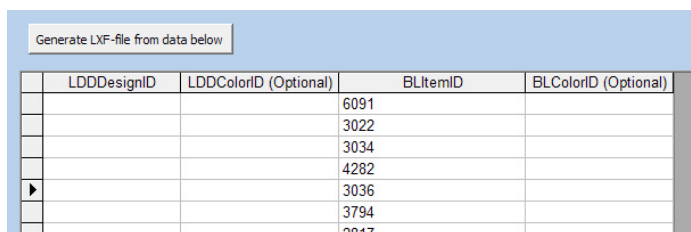

Figure 7 - List of bricks pasted in LDD Manager ready to be processed.
6. Done – you are now ready to generate the LXF-file (Figure 7)